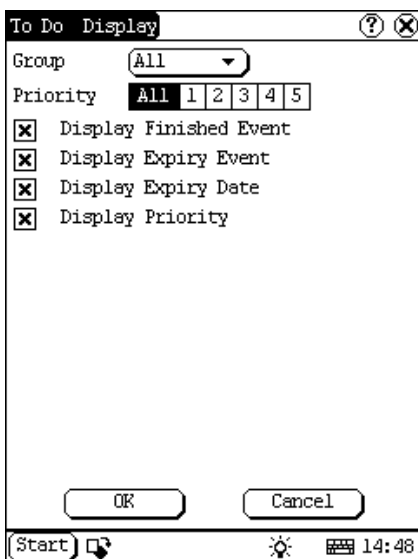

Figure 5-26
- 5) Click the box to the right of each function. When 'X' is displayed in the box, the function is selected. (See Figure 5-26)